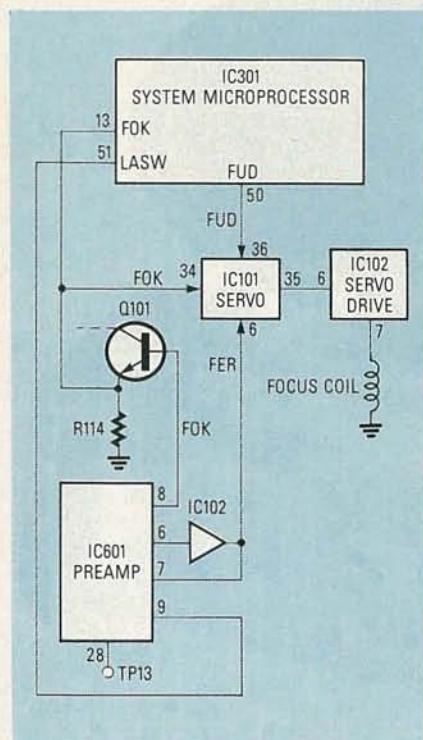

FIG. 29—THIS DIAGRAM should be used to help track down the cause of focusing problems.
**4. Pickup does not focus properly.** Figure 29 is the troubleshooting diagram. When play first begins, the focus actuator coil receives a focus up-down (FUD) signal from IC301 through IC101 and IC102. Those FUD pulses move the focus actuator up and down two or three times as necessary to focus the beam on the disc. Once focus is obtained, a focus-ok (FOK) signal